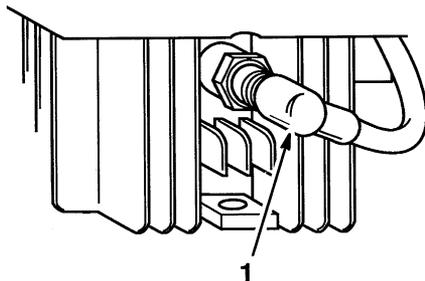

Figure 22
1. Stop engine and pull wire off spark plug (Fig. 22). Remove spark plug and clean with a wire brush, removing carbon build-up. **DO NOT SAND BLAST.** Check condition of plug for cracks and damaged or worn electrodes. Replace if necessary.
3. Install spark plug by hand, then torque to 180 in.-lbs. (15 ft.-lbs.) (20 N·m) (Fig. 22).
1. Stop engine and pull wire off spark plug (Fig. 22).
5. Reconnect spark plug wire when maintenance is completed (Fig. 22).